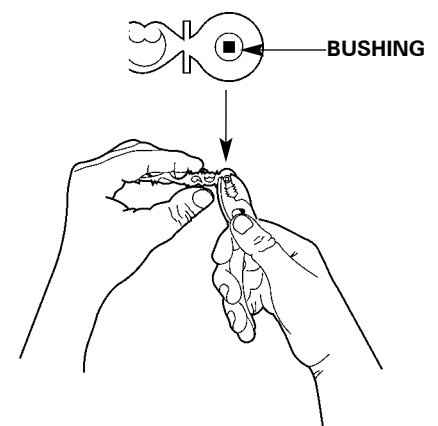

FIGURE 9
3. Remove the hand from the hand shaft by grasping it with your fingers at the point where it attaches to the shaft. Pull the hand straight off. This hand is not screwed on and should come off easily. The minute hand has a small raised area on the back side directly around the shaft hole, this is the hand bushing. Using pliers, grip the bushing firmly by its sides so that it cannot slip in the pliers. With your other hand, turn the clock hand forward or backward the distance necessary to chime at the correct time. (See figure 9).